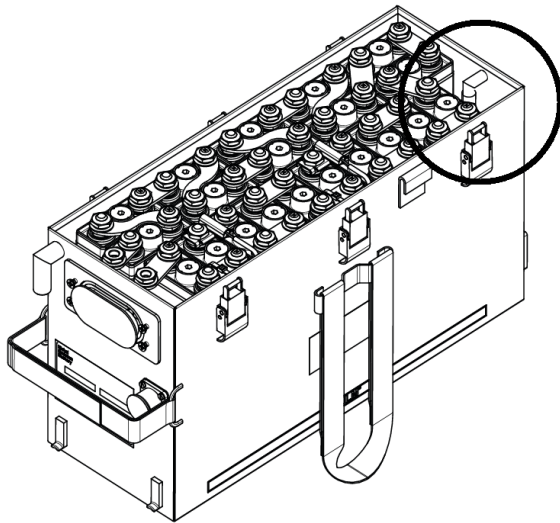

Figure 002 – Detailed view one-way valve (370) location and clearance for handling.
- Else, if one-way valve (370) is not defective, install the complete cover point (5) or continue the maintenance tasks applicable.
(3) Remove the one-way valve (370) Saft P/N 415690
- Remove the one-way valve (370) by gently pulling on the one-way valve to remove it from the vent tube, refer to figure 002.
- Scrap the defective one-way valve (370).
(4) Installation of the new one-way valve (370) Saft P/N 416710
- Install the new one-way valve (370) from inside the box (380) on the box vent tube, refer to figure 002.